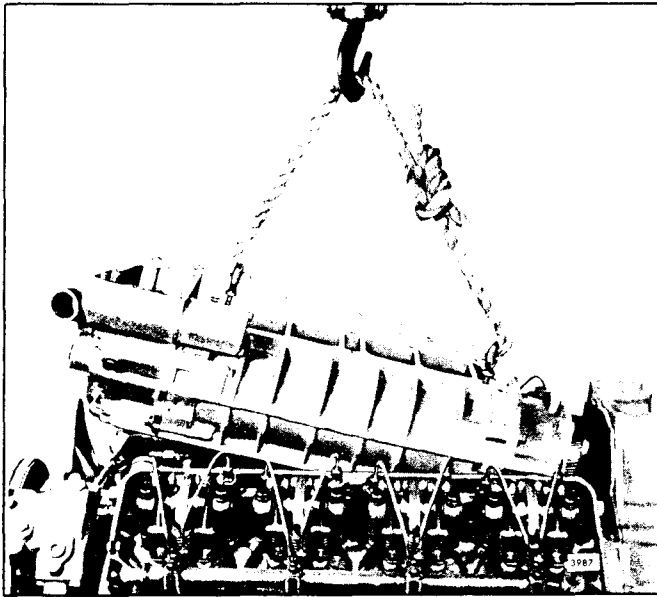

Fig. 4 - Removing Blower From Engine
- a. To install the blower and governor on the engine without disturbing the gaskets and seal, use guide studs (Fig. 4). Install the guide studs in the end blower bolt holes in the cylinder block.
24. Thread eyebolts in diagonally opposite air inlet adaptor-to-blower bolt holes. Attach a rope sling and a chain hoist to the eyebolts. Then lift the blower assembly, at an angle, from the cylinder block as shown in Fig. 4 and place it on a bench.